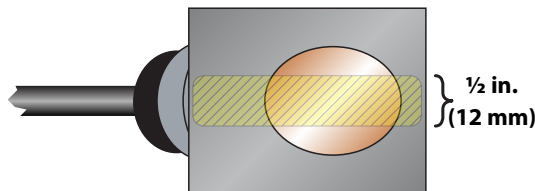

Figure 26: Application of couplant
For DTTR, DTTN, DTTL and DTTH transducers, place a single bead of couplant, approximately 1/2 inch (12 mm) thick, on the flat face of the transducer. See *Figure 26*. Generally, a silicone-based grease is used as an acoustic couplant, but any good quality grease-like substance that is rated to not flow at the operating temperature of the pipe is acceptable. For pipe surface temperature over 130° F (55° C), use Sonotemp® (P.N. D002-2011-010).
5. For DTTR, DTTN, D TTL and D TTH transducers, place a single bead of couplant, approximately 1/2 inch (12 mm) thick, on the flat face of the transducer. See Figure 26. Generally, a silicone-based grease is used as an acoustic couplant, but any good quality grease-like substance that is rated to not flow at the operating temperature of the pipe is acceptable.
See *Figure 26 on page 27*.